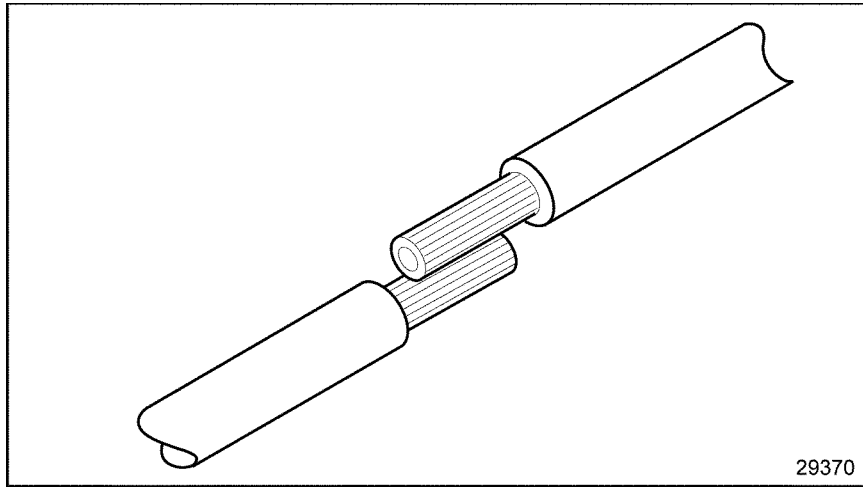

Figure 3-51 Positioning the Leads
1. Position the leads, so one overlaps the other. See Figure 3-51.